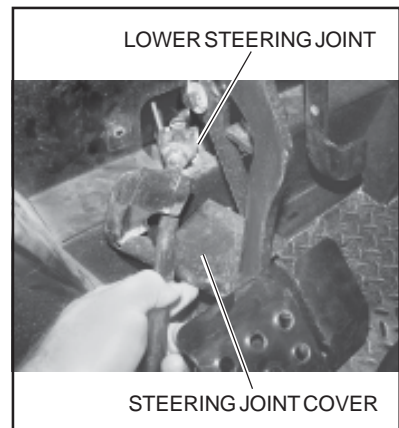

Figure 11
3. Remove two capscrews and lock nuts securing the steering joint cover to the firewall (Figure 11).